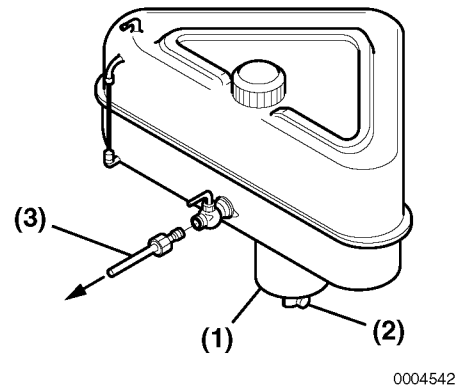

Figure 3-3
Inspect the inside of the fuel tank before initial use. Be sure it is clean and dry. Always drain any water from the tank with the fuel tank drain cock (**Figure 3-3, (2)**) according to the maintenance schedule.